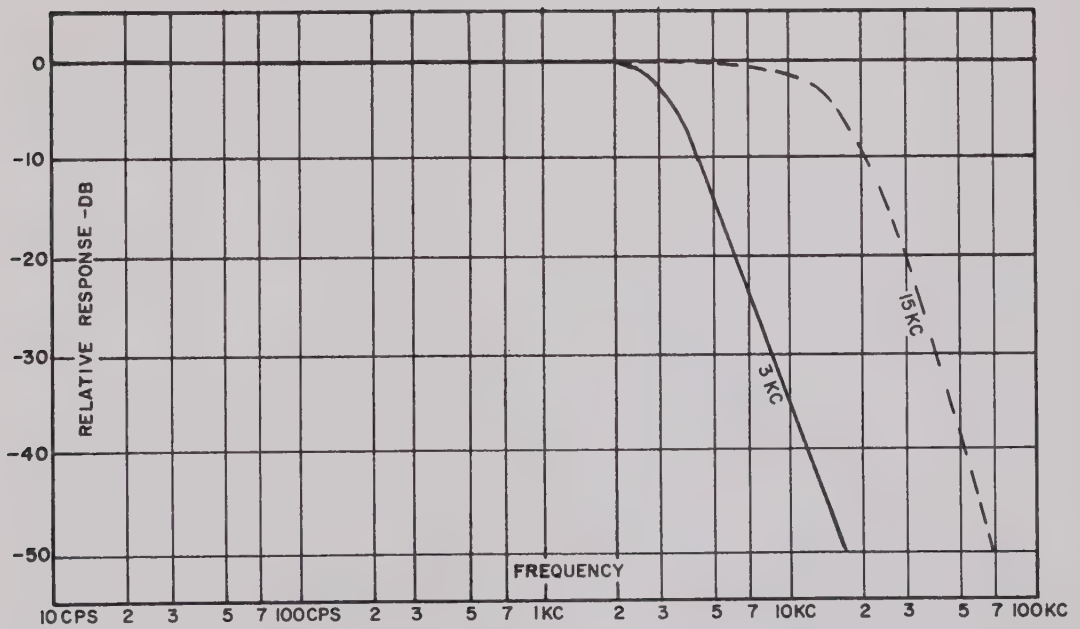

Figure 2-1 Frequency Response with 3KC and 15KC Filters
2.4 FREQUENCY RESPONSE. The frequency response for designated positions of the FILTER switch, normalized to 1 kHz at room temperature, is as follows. (See Figs. 2-1 and 2-2).